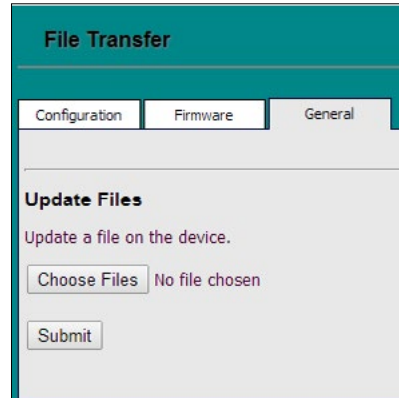

Figure 15: File Transfer - General Tab
5. Refer to the *File Transfer Window* below (**Figure 15**). In the *General Tab*, *click* **<Browse>** and locate the file you saved in Step 1. Then *click* on **<Submit>**. When the download is complete, *click* on the **<System Restart>** button.